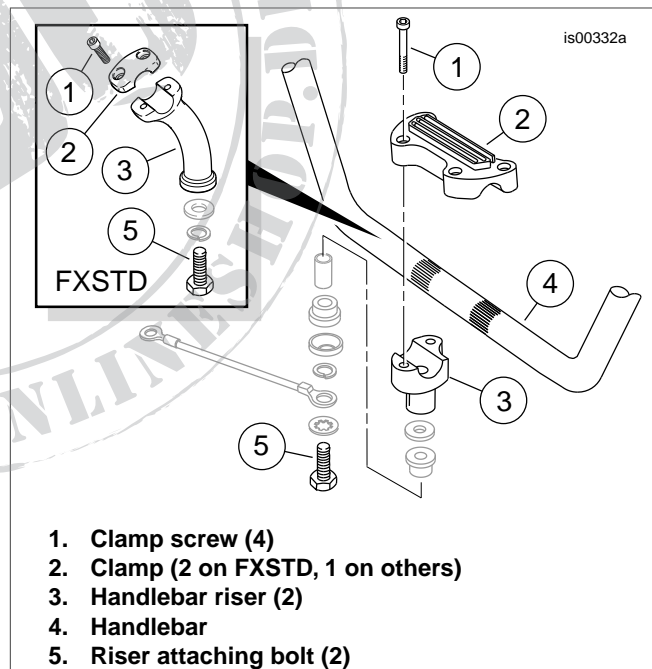

Figure 1. Handlebar Clamps and Risers (Dyna and Softail Models)
12. **For all Dyna and Softail models EXCEPT Rocker (FXCW/C):** See Figure 1. Remove and discard the screws (1), upper clamp (2) and handlebar (4).
14. **For all Dyna and Softail models EXCEPT Rocker (FXCW/C):** See Figure 1. Remove the two riser mounting bolts (5) from under the upper fork bracket. Remove and discard the handlebar risers (3), but save the remaining riser isolation hardware for later installation.